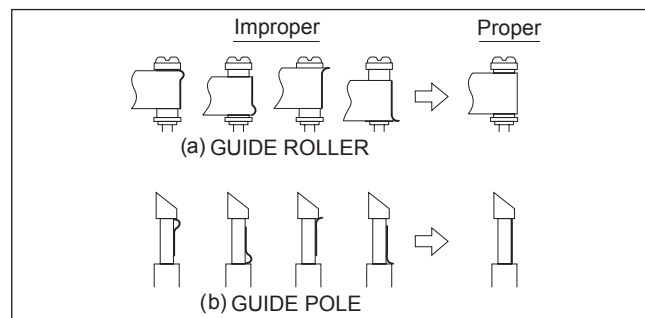
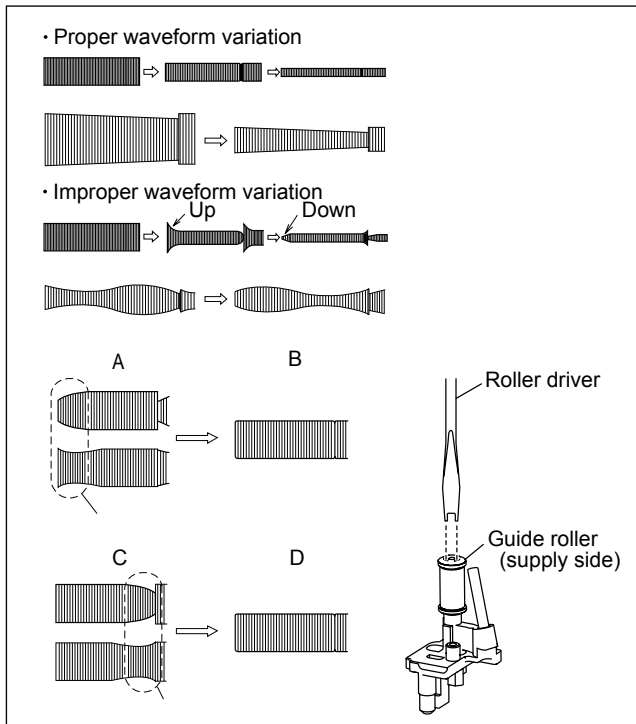

Fig.4-2b
Fig.4-2c
- To prevent damaging the alignment tape in the compatibility adjustment, prepare a cassette tape (for self-recording/playback), perform a test on it by transporting it and making sure that the tape is not bent by the tape transport mechanisms such as in the guide rollers. (See Fig.4-2b.)
- (1) Play back the alignment tape (A1).
- (2) Apply the external trigger signal to D.FF (E), to observe the V.PB FM waveform at the measuring point (D).
- (3) Set the VCR to the manual tracking mode.
- (4) Make sure that there is no significant level drop of the V.PB FM waveform caused by the tracking operation, with its generally parallel and linear variation ensured. Perform the following adjustments when required. (See Fig. 4-2c.)
- (5) Reduce the V.PB FM waveform by the tracking operation. If a drop in level is found on the left side, turn the guide roller of the pole base assembly (supply side) with the roller driver to make the V.PB FM waveform linear. If a drop in level is on the right side, likewise turn the guide roller of the pole base assembly (take-up side) with the roller driver to make it linear. (See Fig. 4-2c.)
- (6) Make sure that the V.PB FM waveform varies in parallel and linearly with the tracking operation again. When required, perform fine-adjustment of the guide roller of the pole base assembly (supply or take-up side).
- (7) Unload the cassette tape once, play back the alignment tape (A1) again and confirm the V.PB FM waveform.
- (8) After adjustment, confirm that the tape wrinkling does not occur at the roller upper or lower limits. (See Fig. 4-2b.) [Perform adjustment step (9) only for the models equipped with SP mode and EP (or LP) mode.]